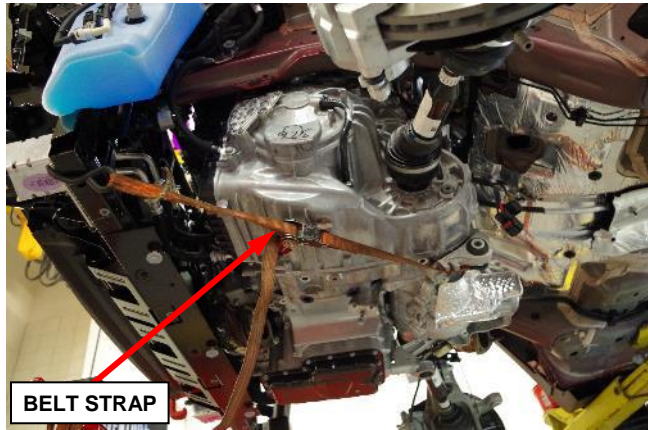

Figure 80 – Use a Belt Strap to Rotate the Engine/Transmission Assembly
57. **AWD/4WD only:** Using an adjustable length belt strap attached between the vehicle structure and engine, rotate the bottom of the engine and transmission assembly forward tilting the PTU down to create enough space for removal of the steering gear from the vehicle (Figure 80).
13. **AWD/4WD only:** If a belt strap was used to rotate the bottom of the engine and transmission assembly forward, the belt strap may be removed (Figure 80).